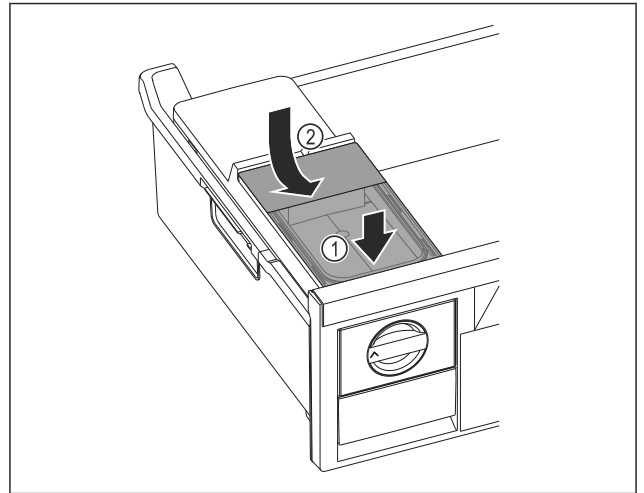

Fig. 153
- Position the water tank at the front. Fig. 153 (1)
- Lower the water tank at the rear. Fig. 153 (2)